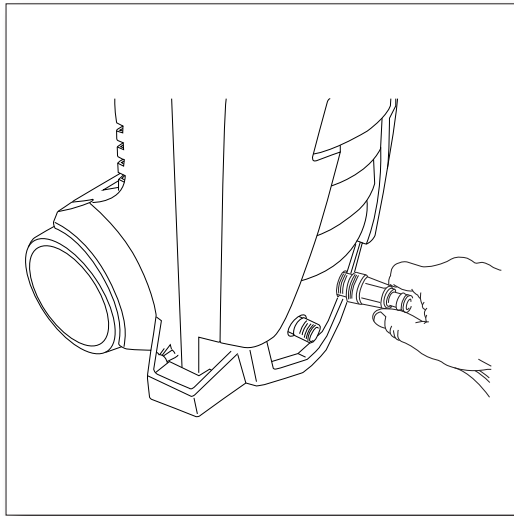
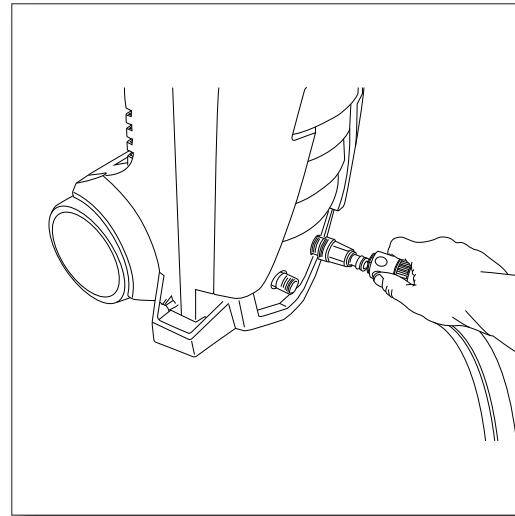

Fig. 17
Fig. 18
- First, remove the plastic shipping cover on the water inlet on the front of the power washer on the right side. Attach the clear quick connect filter to the power washer (**Fig. 17**) hand tight is fine. Slide the garden hose adapter collar onto the clear adapter (**Fig. 18**), it will “click” into place.